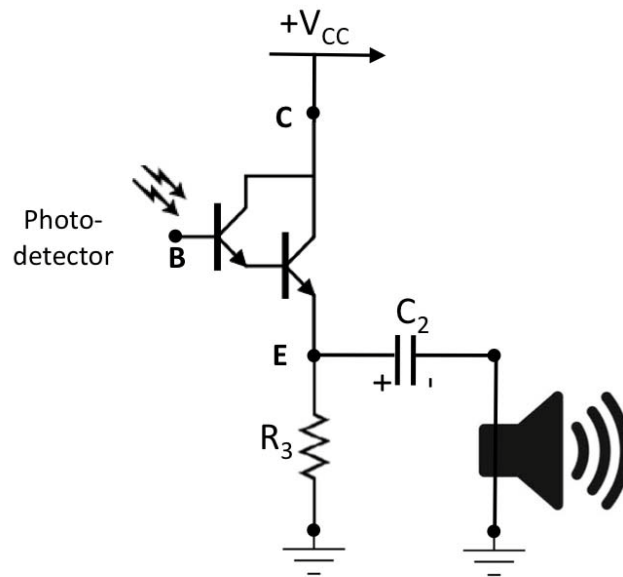

Figure 8:
5.b) Build the receiver circuit according to the schematic shown in Figure 8. You can assume  $V_{CC}=3V$  (please use two AA batteries),  $R_3 = 100\Omega$  (though anything in the range  $30-300\Omega$  would do),  $C_2 = 100\mu F$  (anything in the range  $10-100\mu F$  would do). For the speaker, please use either yellow ( $4\Omega$ ) or small ( $8\Omega$ ) speakers. Chances are, however, that due to the very low resistance of the speakers you will not get much of a signal out. (Have you seen this problem before?) To fix these you can use higher-resistance headphones (ES50 ones or your own), or even better, amplify the signal using an audio amplifier (remember those? : ). Did you build your own amplifier in Lab 3? You can use it now! Or use amplifiers that the TFs have made for you.